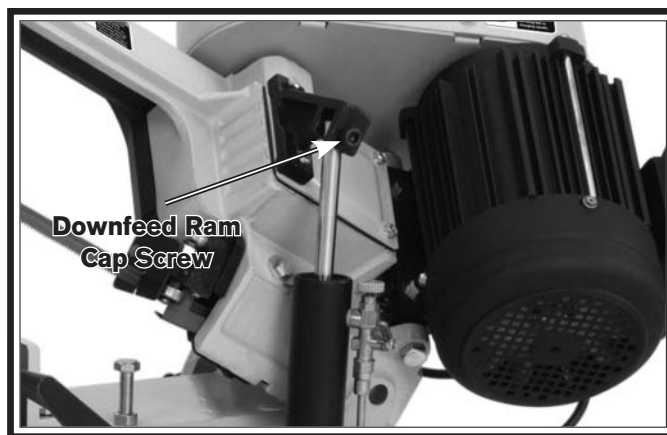

Figure 41. Downfeed ram cap screw location.
3. Unthread and remove the downfeed ram cap screw shown in **Figure 41**, then pivot the saw bow up into the vertical position. Push the head locking pin (**Figure 1**) inward to lock the saw in the upright position.